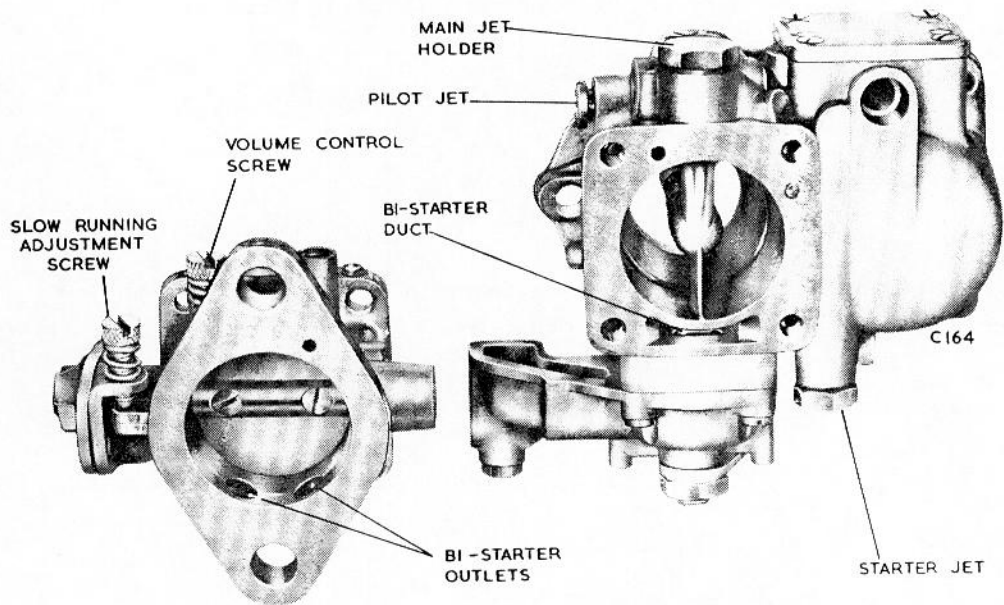

Fig.7 Throttle and float chamber assemblies.
9. Part the throttle chamber from the float chamber assembly, see Fig. 7, by inverting the carburettor and removing the four cheese-head screws. If the two sections will not fall apart, lever gently between the bottom of the float chamber and the throttle spindle boss. Never tap the flange with a hammer.
8. Refit the pilot jet. It is most important to ensure that the inner end seats before the head abuts the housing. If it does not, relieve the casting by careful filing to provide a clearance between the head and housing as shown in Fig.7.